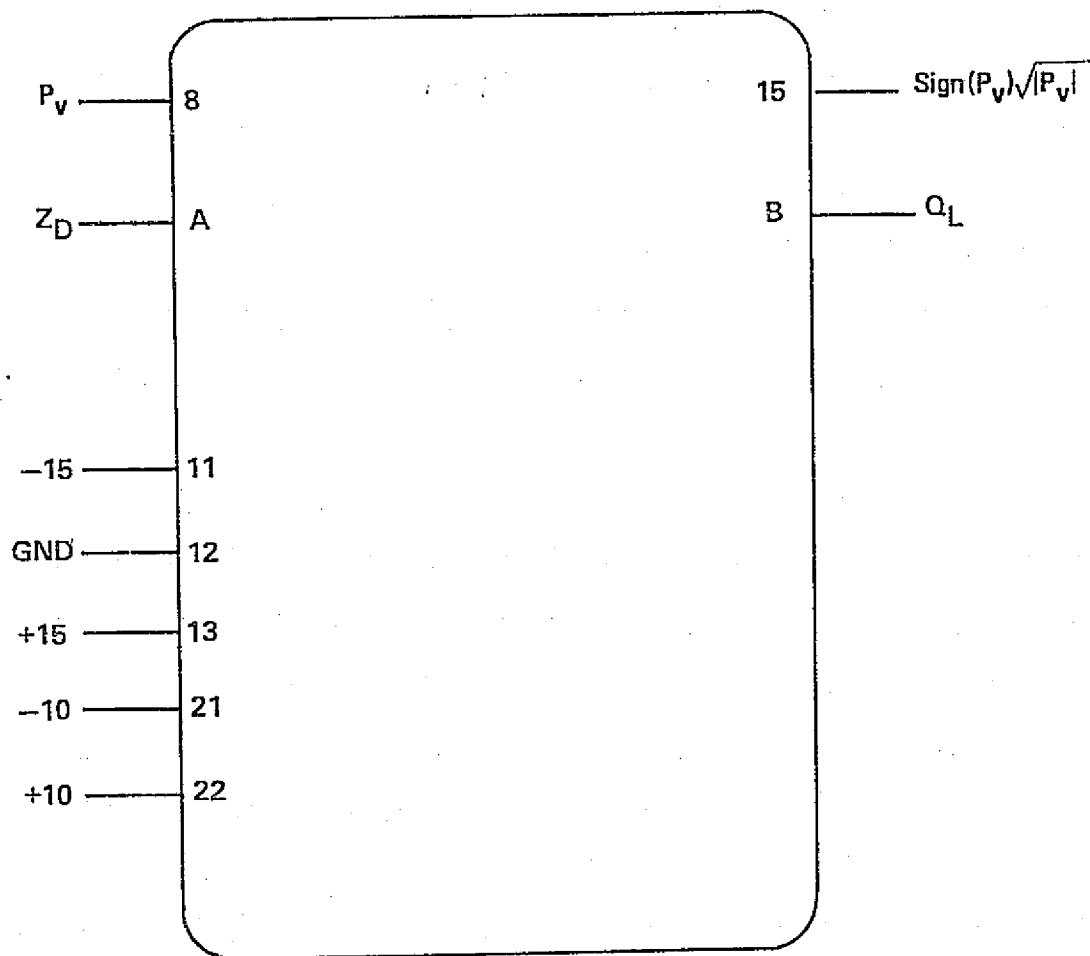

Figure 1. - Load flow board test configuration.
A. Insert board in fixture and apply power as shown in figure 1.